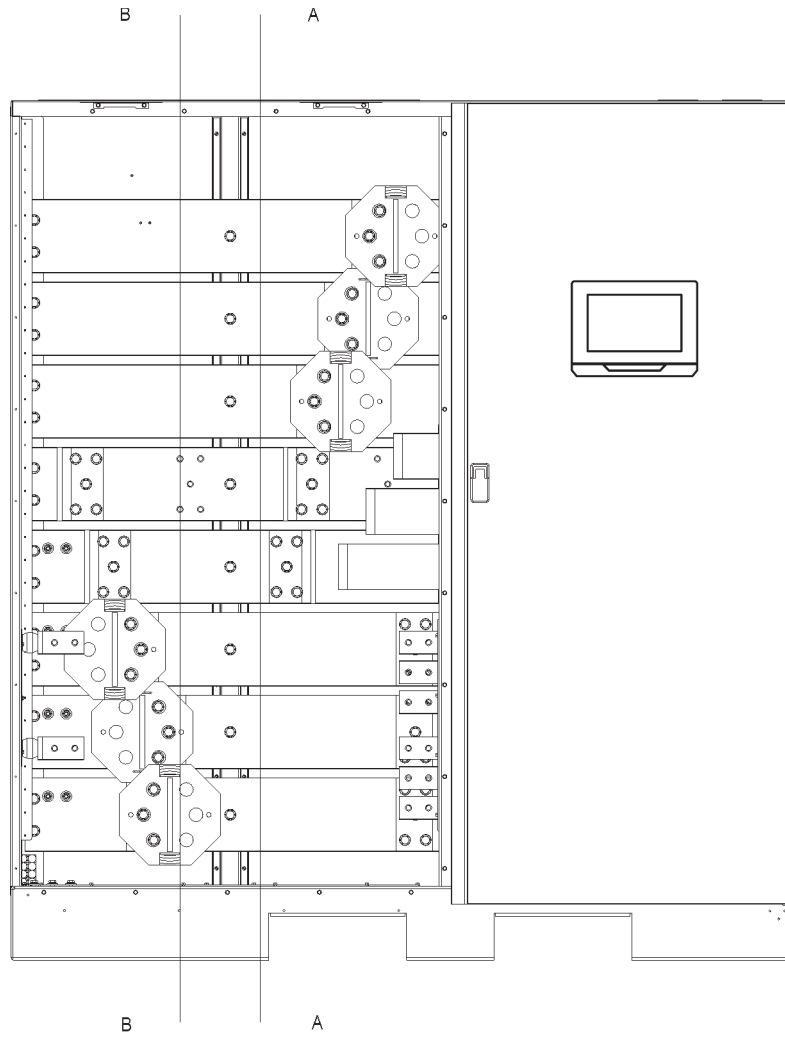

Figure 4-17. UPS ISBM section power terminal locations - separate battery
5. Using hardware from the external wiring terminal hardware kit, connect the positive, negative, and ground DC power wiring from the battery system or disconnect device to the UPS ISBM section battery and ground terminals. Use one set of terminals for each UPM as shown in Figure 4-17. See Section 3.2.2 on page 19 for wiring and termination requirements.